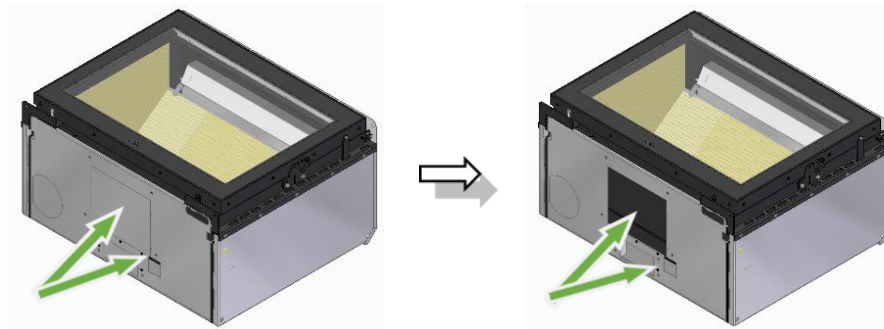

Figure 47 – Ventilation Kit Removal
a. On these models of equipment, the ventilation kit is placed underneath the equipment. To attach the optional ventilation kit, you must first break the micro-joints on the bottom with a hammer, in order to attach the fan and the ventilation kit accessories, see Figure 47.